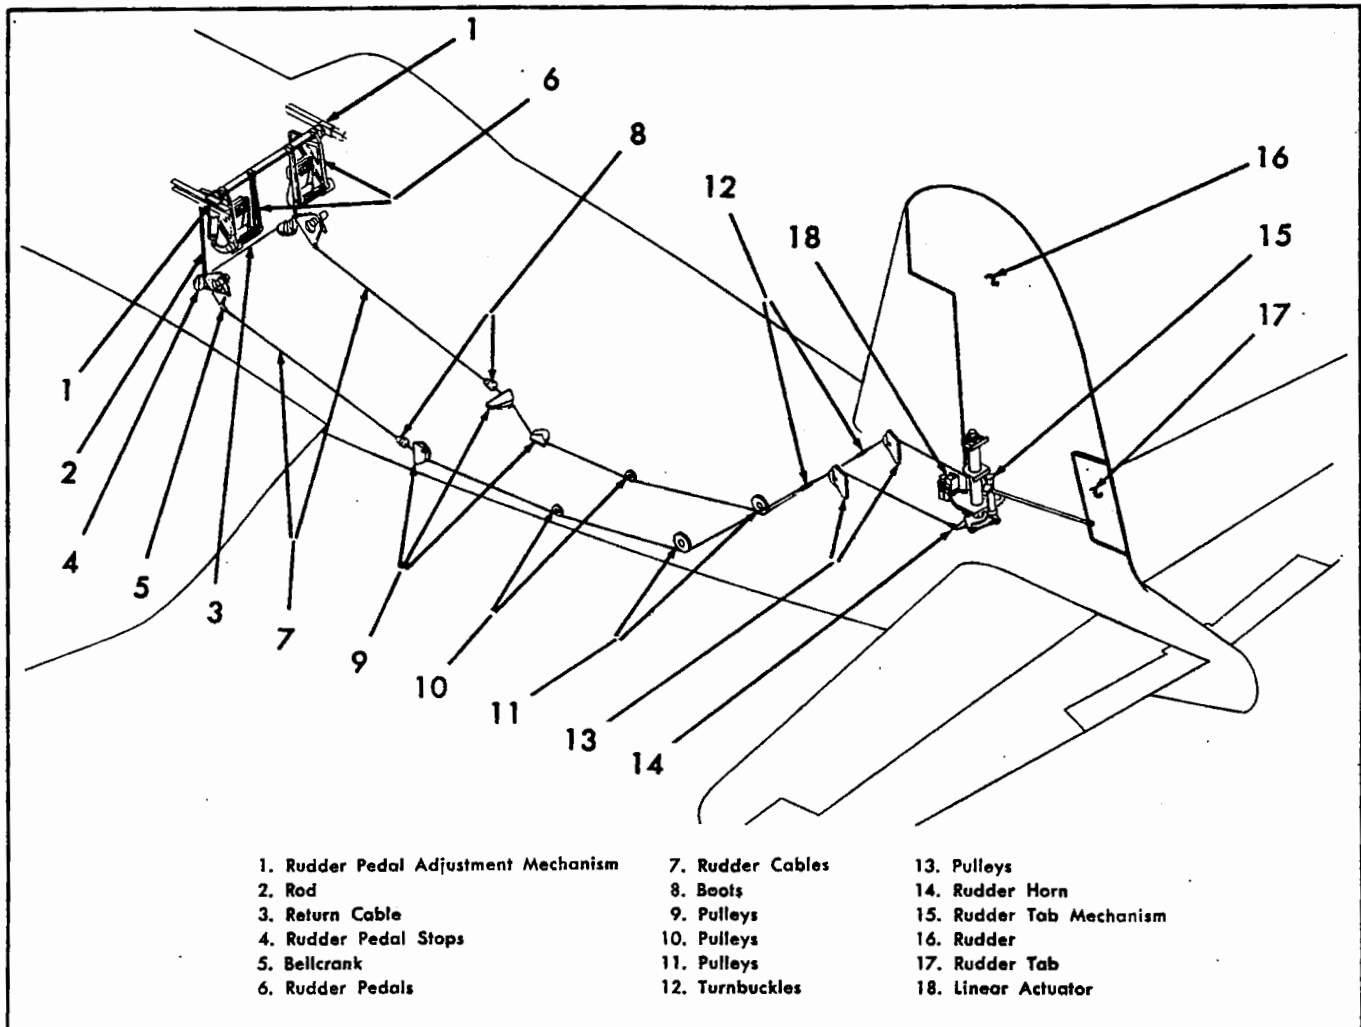

Figure 4-26. Rudder Control System.
4-172. DESCRIPTION. (See figure 4-26.) The rudder is controlled by a cable and pulley system extending from the rudder pedals (6) in the cockpit to the rudder horn (14) at the rear of the fuselage. A return cable extension (3) runs forward from the rudder pedals around pulleys, forming a continuous circuit. Pushing on either pedal (6) causes it to swing forward and pull up on rod (2) which transmits motion to a bellcrank (5) applying tension to the rudder cables (7) attached to rudder actuating horn (14) resulting in displacement of the rudder (16). The rudder tab (17) is actuated electrically through a linear actuator (18) to obtain trim displacement, as in the case of the aileron and elevator trim tabs. For a description of operation of the linear actuator see paragraph 4-137. Balance or "helper" tab reaction is obtained automatically through a spring tube installed in the rudder torque tube which is linked to the tab actuating mechanism. The following table gives maximum rudder and rudder tab deflections:
4-175. REMOVING. (See figure 4-26.) For removal of the rudder, see paragraph 4-82. Removal procedure for the tab actuating mechanism is covered in paragraph 4-182 and that for the rudder pedals and adjusting mechanism in paragraph 4-168. Removal of the remainder of the control system is as follows;
4-179. ADJUSTING. (See figure 4-26.) The special tools required for checking the rudder are a protractor or a rudder travel checking board; (See figure 4-33). After installation of this section of rudder control system, rudder should be rigged to neutral position as follows: